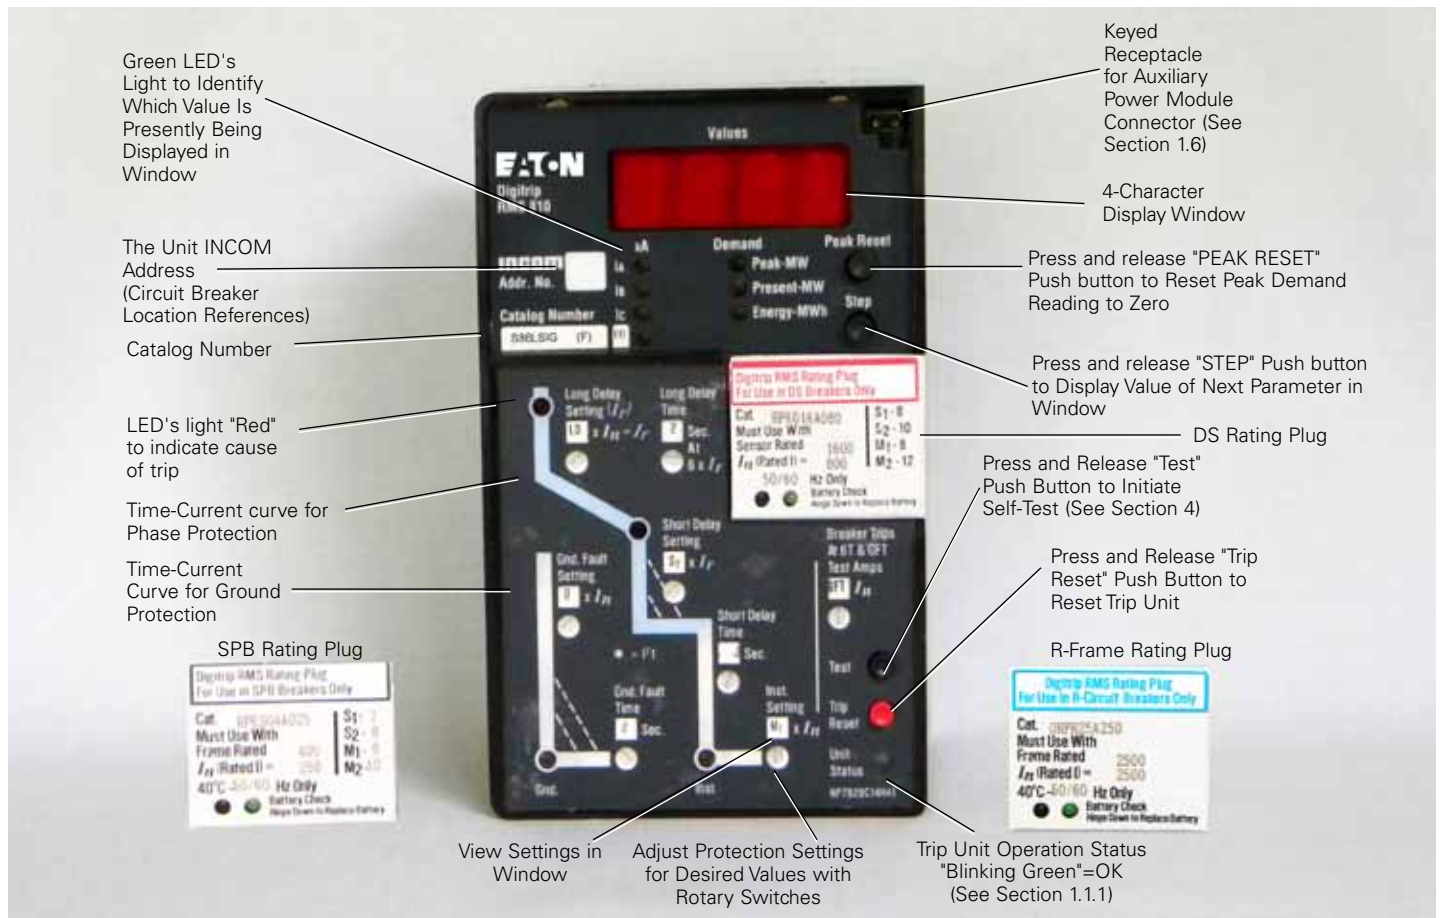
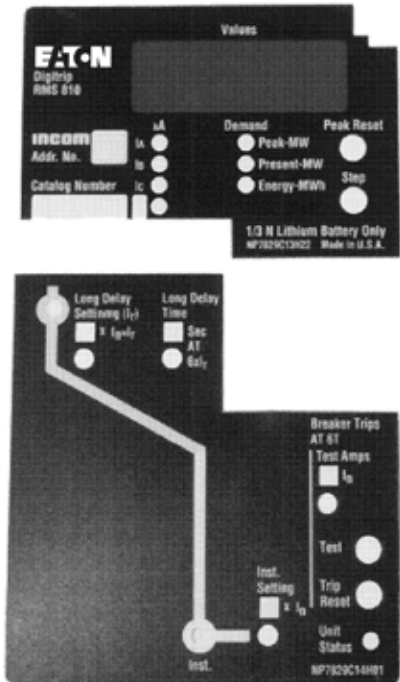

Figure 1. Digitrip RMS 810 Trip Unit Type LSIG with Rating Plug.
Figure 3. Digitrip RMS 810 Type LI.
The Digitrip RMS 810, illustrated in Figure 1, is a Trip Unit suitable for use in types DS and DSL Low-Voltage AC power circuit breakers and type SPB Systems Pow-R circuit breakers and Series C R-Frame molded case circuit breakers. The Digitrip RMS 810 Trip Unit provides five basic functions:
The "Green" Light Emitting Diode (LED) in the lower right corner of the Trip Unit (Figure 1) "blinks" once each second to indicate the Trip Unit is operating normally.
The LEDs, shown in Figures 1 and 3 thru 8 on the face of the Trip Unit, light "RED" to indicate the reason for any automatic trip operation. As indicated in Figures 3 - 8, each LED is strategically located in the related segment of the time-current curve depicted on the face of the Trip Unit. The reason for trip is identified by the segment of the time-current curve where the LED is lighted "RED", and is also identified on the Display. Following an automatic protection trip operation, the external control power to the Power / Relay Module (see Section 1.4) will maintain the LED "RED" and will continue to send a **TRIP** signal to **LOCKOUT** the circuit breaker until the Trip Unit is **RESET**. The Digitrip RMS 810 Trip Unit can be **RESET** in two ways:
- Either press and release the **"TRIP RESET"** button (See Figure 1 lower right corner just above the **"UNIT STATUS"** LED);
In the event that control power is lost, the back-up battery in the Rating Plug (see Section 1.3 and Figures 1 and 9) continues to supply power to the LEDs. To check the status of the battery, see Section 4.5.
Press and release the "TRIP RESET" push-button shown in Figure 1, to turn "Off" the LEDs following a trip operation.
The Digitrip RMS 810 Trip Unit is available in six different types. Each Trip Unit may be equipped with a maximum of five phase and two ground (time-current) settings (see Section 3) to meet specific application requirements. The protection available for each type is summarized in Table 1, and illustrated in Figures 3 through 8:
AFTER EACH TRIP OPERATION (WHETHER DUE TO OVERCURRENT PROTECTION OR REMOTE CONTROL) THE AUTOMATIC LOCKOUT-AFTER-TRIP FEATURE OF THE DIGITRIP RMS 810 TRIP UNIT MAINTAINS THE CIRCUIT BREAKER IN A "TRIP-FREE" CONDITION, PROVIDED 120 VAC CONTROL POWER REMAINS AVAILABLE TO THE POWER / RELAY MODULE. THE TRIP UNIT MUST BE RESET BEFORE THE CIRCUIT BREAKER CAN BE CLOSED AGAIN. THE RESET CAN BE ACCOMPLISHED EITHER LOCALLY BY PRESSING AND RELEASING THE "TRIP RESET" PUSH BUTTON (SEE FIGURE 1), OR REMOTELY BY THE IMPACC SYSTEM (SEE SECTION 5.9).